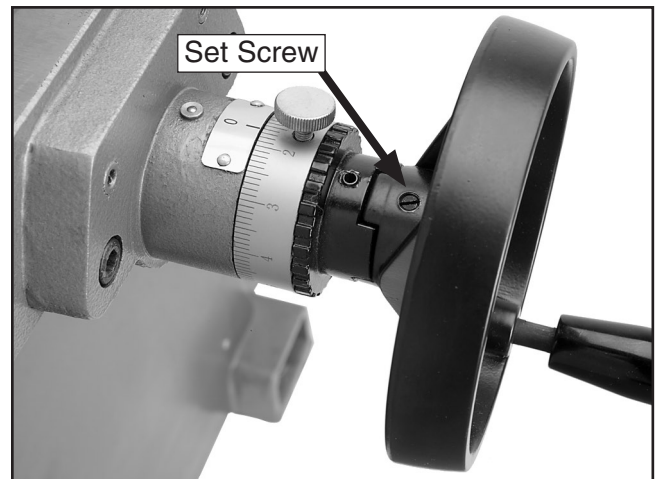

Figure 8. Handwheel installed.
1. Place the handwheels on the longitudinal and cross lead screws, and tighten the set screw (see Figure 8).